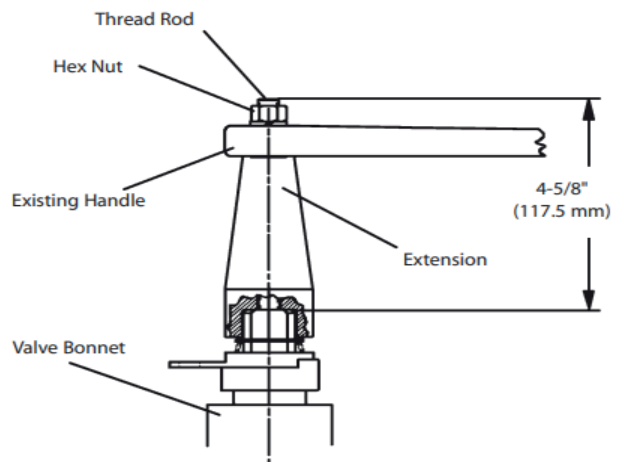

Figure 4.
3. Remove the lever or "T" socket and pipe handle depending on the valve style. (See Figures 4 and 5).
5. Screw the thread rod into the top of the stem to the dimension shown in (Figures 4 or 5) below. The use of a thread locking product is advised.